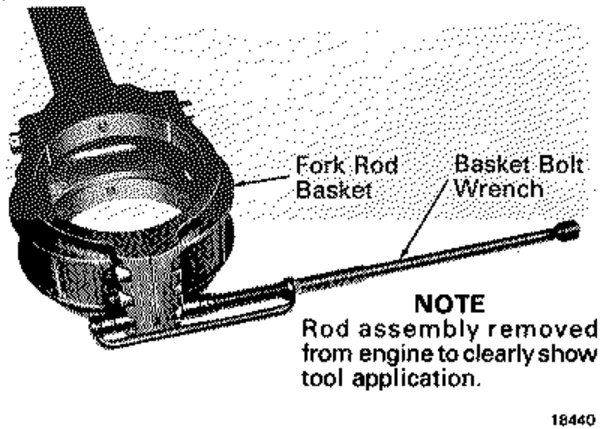

Fig. 5-7 - Basket Bolt Wrench Application
34. Remove the lower basket bolts and nuts using the spring-loaded basket bolt wrench, Fig. 5-7, with a ratchet and extension.
20. Remove the lower basket bolts and nuts using the spring-loaded basket bolt wrench, Fig. 5-7, with a ratchet and extension.